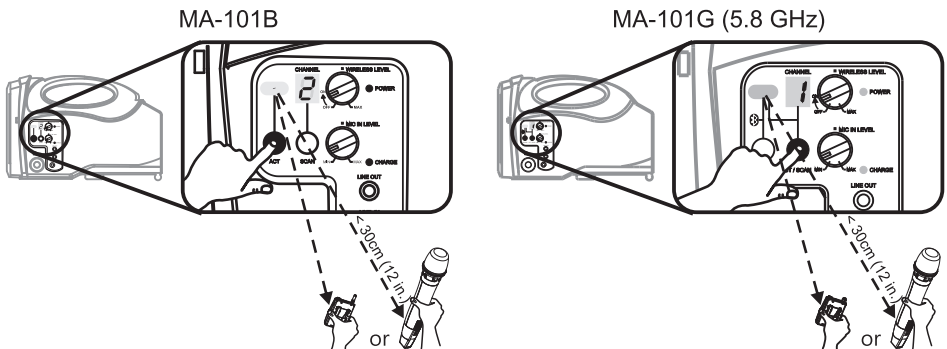

Fig. 4
- (C) Setting ID code:
- (1) Press & hold the SCAN button. Concurrently, turn on the Power Switch/Wireless Mic Volume Control. Press & release the SCAN button will move up to the next available ID code. Turn off the Power Switch/Wireless Mic Volume Control to save this ID CODE.
- (2) Turn on the Power Switch/Wireless Mic Volume Control back on again to perform the ACT synchronization with embedded ID code. Without performing this ACT synchronization step, no sound output because the ID codes has been changed even though the same channel number remains the same.
3. Automatic Transmitter Channel Sync. Fig. 4:
- (A) Turn on the transmitter.
- (B) Press the ACT sync button on the receiver. The Channel indicator will blink indicating that ACT sync mode is active.
- (C) Align the sync windows of both transmitter and receiver at a distance of <30 cm (12-inch) and hold until Channel indicator stops blinking.
- (D) Sync is done successfully when Channel indicator stops blinking, the system is ready for use.
- (E) If ACT sync fails, repeat the sync procedure, carefully maintaining alignment between windows of both transmitter and receiver.